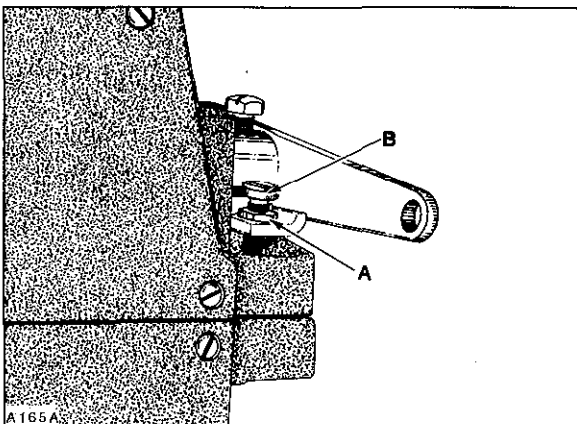

Fig.24
Loosen lock nut (A, Fig. 24) and adjust screw (B) in presser foot lifter lever, allowing presser foot to be raised to its highest position without interfering with needle head. Lock nut (A) securely.